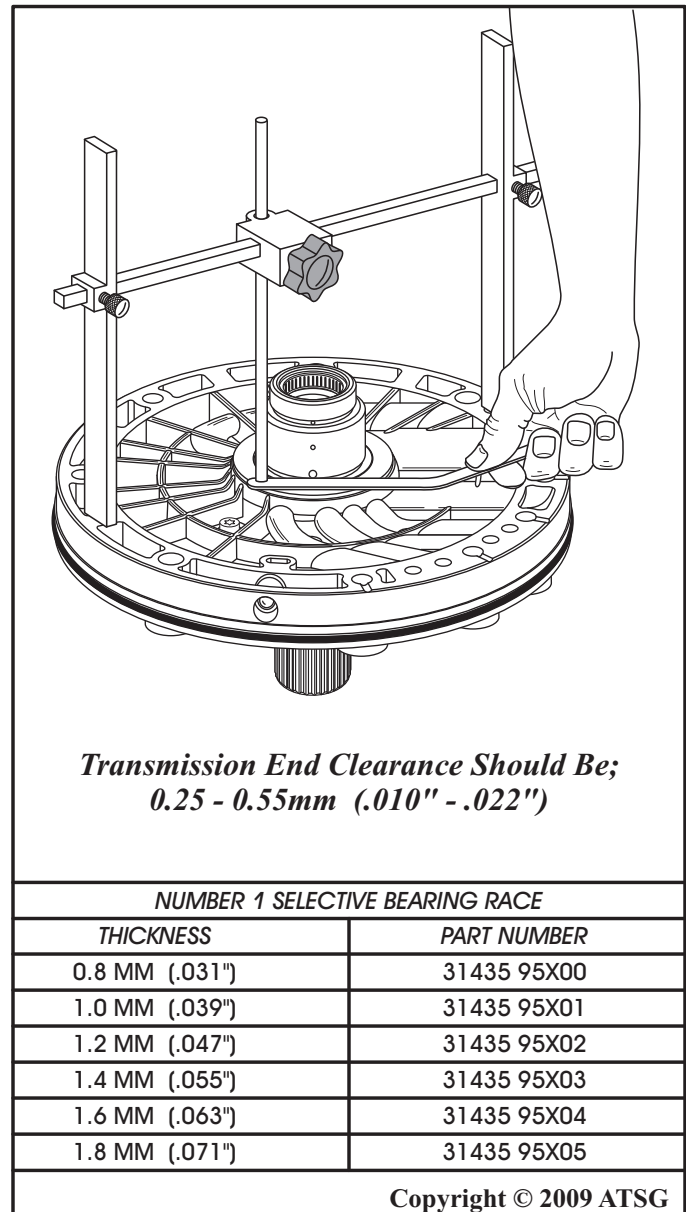

Figure 227
75. Now, turn the "H" gage over and set it on the completed oil pump assembly, as shown in Figure 227.
76. Measure with a feeler gage between number 1 selective thrust bearing race and adjustment rod, as shown in Figure 227, for the proper transmission end-play.
78. Change the number 1 selective thrust bearing race as necessary, to obtain the specified front end-play, using the chart in Figure 227.